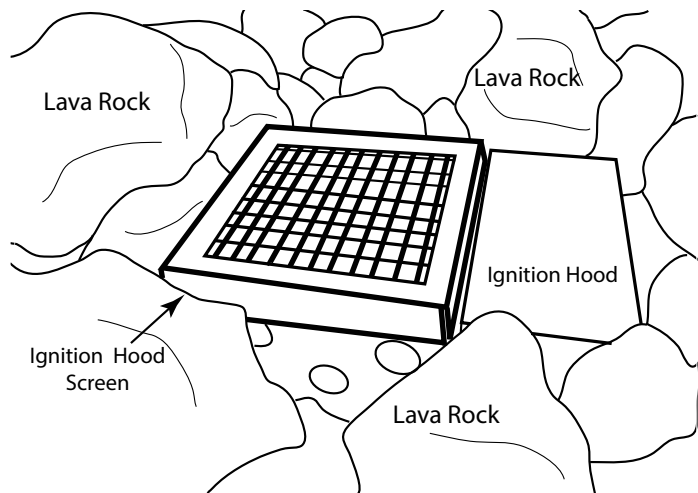

Fig. 12 Installing mesh cover on the ignitor shield.
Step 14: Install the ignition hood screen. Ensure no media covers hood. See Fig. 12. Install the lava rock/media material according to fire pit install manual then turn the main gas supply back ON.